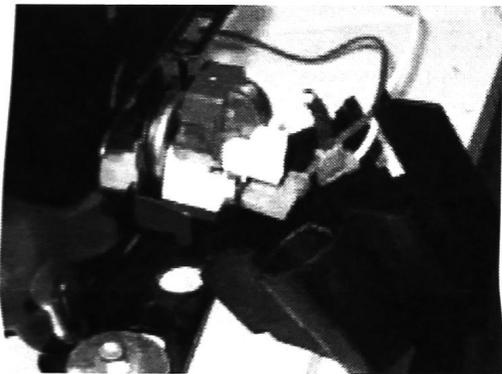

FIGURE 4
8. Install the new electrical cover provided with the kit. Be sure to insert the entire jumper into the cover. Engage the bottom of the cover first, then push the cover upward while snapping in place. (See Figure 4.)